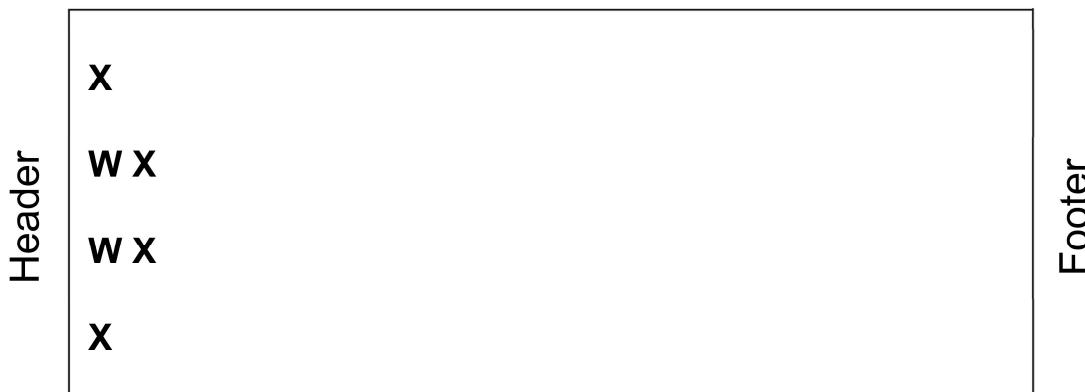

FIGURE 22 : SECURING THE HEADER END OF ATTIC LADDER
S. Installer #1: Carefully open the door and make sure the spreader bars are fully extended to avoid unexpected door closure. Be sure the header hinge does not move. Installer #2: Drill 5/32" diameter by 3" deep pilot holes into the header through the 4 bushings in the frame. Install the 3" lag screws and washer in each location. See **Figure 22**.